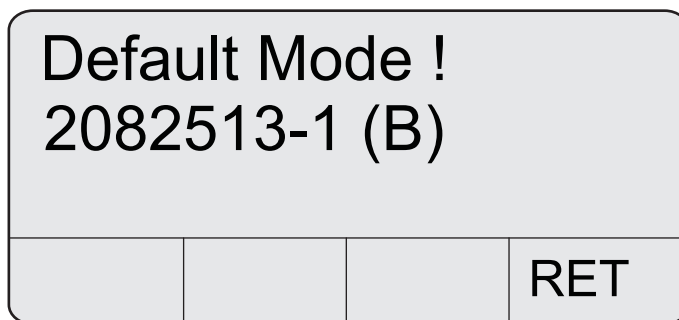

Figure 26 Default mode screen
2. Hold down **1** and **2** while turning the power on. Release the keys when the MET ONE 227 particle counter beeps once. The Default mode screen is displayed (refer to Figure 26 on page 32).